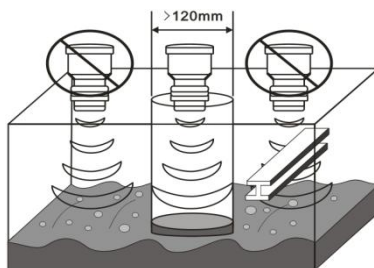

Figures 8
- For a liquid with a calm surface without waves, ultrasonic measurement will obtain the best results. If there is debris, bubbles, or large fluctuations on the surface of the liquid, a waveguide should be installed. The diameter of the waveguide should be greater than 120mm, and there is no joint. As shown in Figure 8